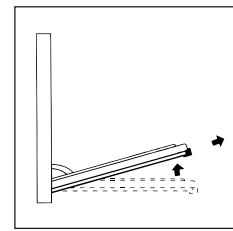

FIGURE 7
- Now, when the door is closed slightly, it can be lifted out by removing hooks "A" as shown in figure 7.